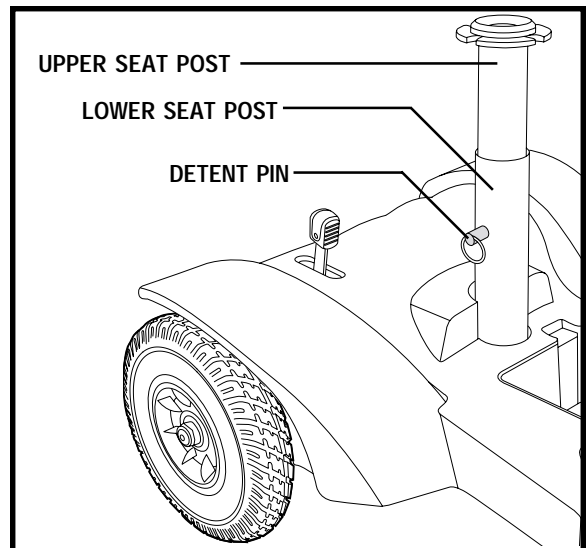

Figure 8. Seat Height Adjustment
2. Use the attached ring to pull and remove the detent pin from the lower seat post. See **figure 8**.